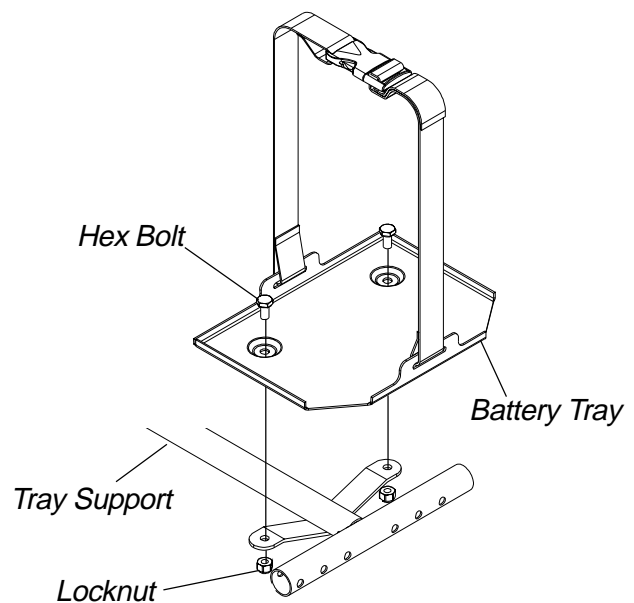

FIGURE 2 - REPLACING BATTERY BOX RETAINING STRAP - ALL FWD MODELS EXCEPT RANGER II_{JR}
(FIGURE 2)
3. Remove the two (2) hex bolts and locknut that secure the existing battery tray to the tray support.
5. Position the new battery tray on the tray support as shown in FIGURE 2.
6. Secure the new battery tray to the tray support with the two (2) hex bolts and locknuts. Tighten securely.